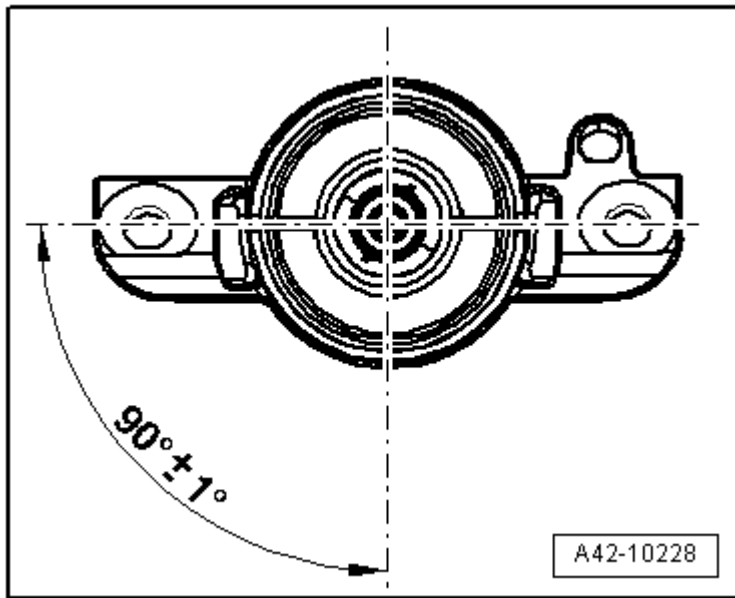

Fig. 290: Upper Shock Absorber Mount Installation Position
- Installed position, refer to **Fig. 290**